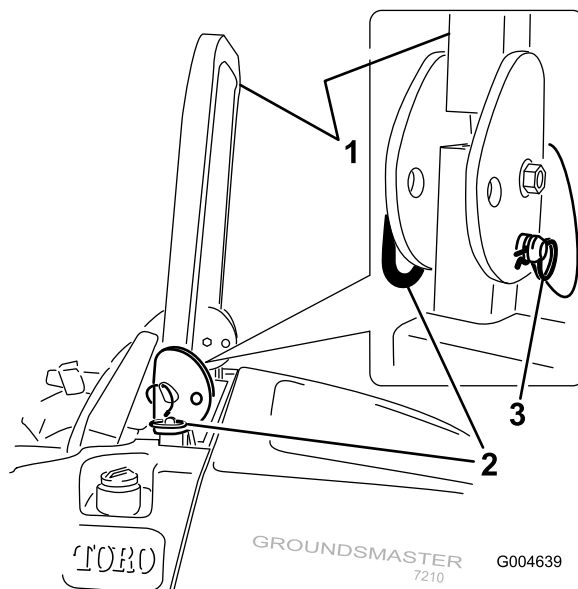

Figure 3
4. To lower the roll bar, remove the hairpin cottes, push the roll bar forward against the springs, and remove the two pins (Figure 3).
6. Install the two pins and secure them with the hairpin cotter pins (Figure 3).
7. To raise the roll bar, remove the hairpin cotter pins and remove the two pins (Figure 3).
8. Raise the roll bar to the upright position and install the two pins and secure them with the hairpin cotter pins (Figure 3).